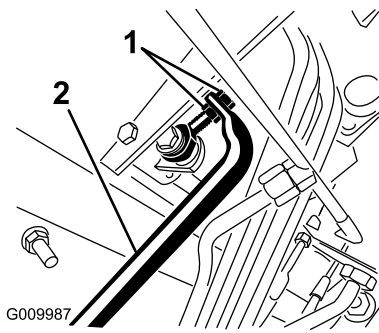

Figure 112
5. Adjust the jam nuts on the pump rod end to move the pump control tube forward to eliminate forward creep or rearward to eliminate rearward creep (Figure 112).